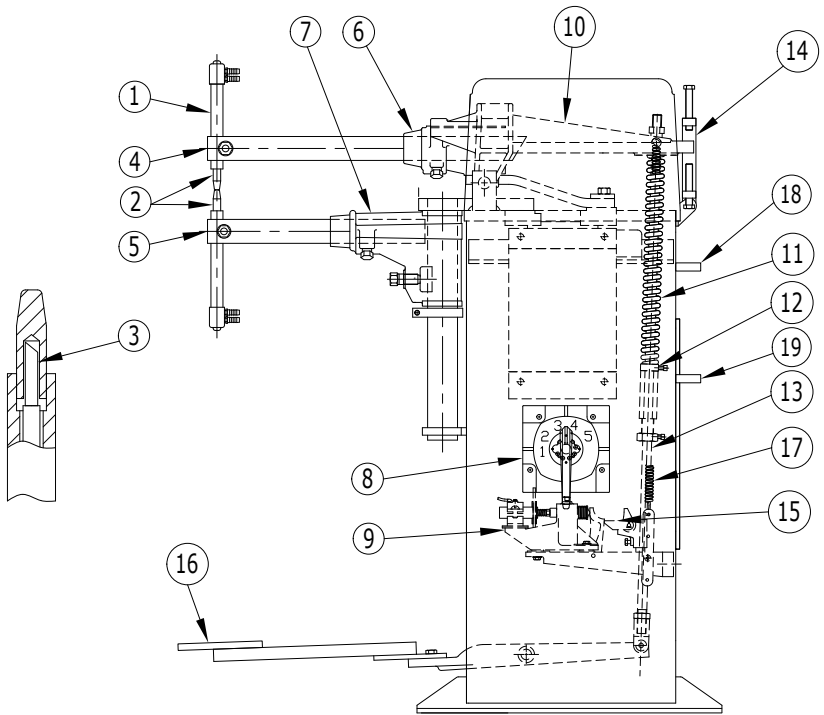

FIG. 2
Refer to Figure 2, Page 7, for location of parts identified herein by numbers in parentheses.
- B. Connect water inlet (19) and water drain (20) and connect hoses to tip holders as shown in Fig. 2, Page 7.